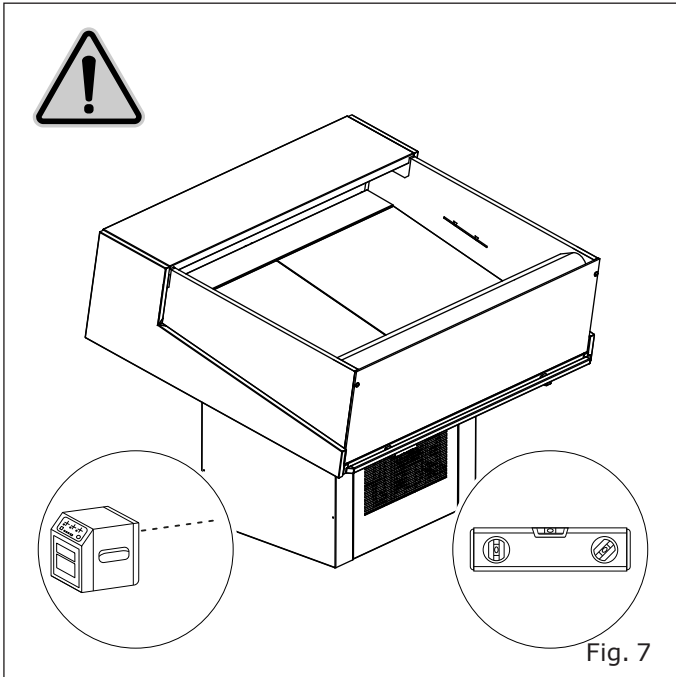

Fig. 7
- On a levelled floor ("Fig. 7").